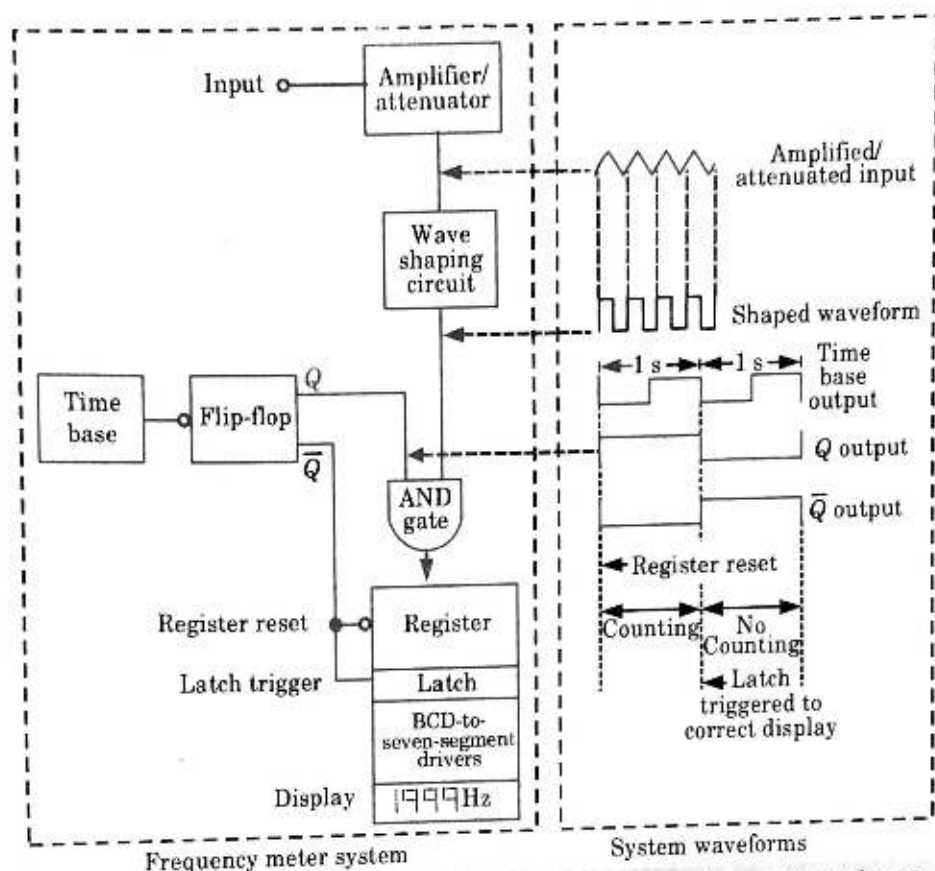

Fig. 2.17.1. Basic block diagram of digital frequency meter and waveforms.
1. The basic block diagram of a digital frequency meter and its associated waveforms are shown in Fig. 2.17.1.